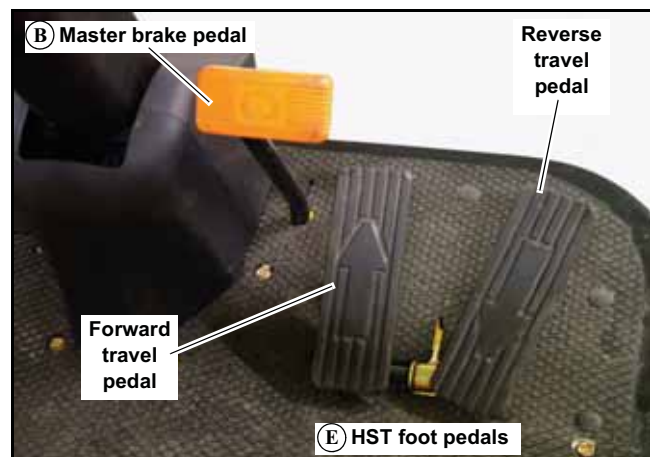

Figure 3-5
- B. Master brake pedal (Figure 3-5)** — Depress the master brake pedal to stop the unit.
- E. Hydrostatic transmission (HST) foot pedals (Figure 3-5)** — The ground speed of the unit is continuously